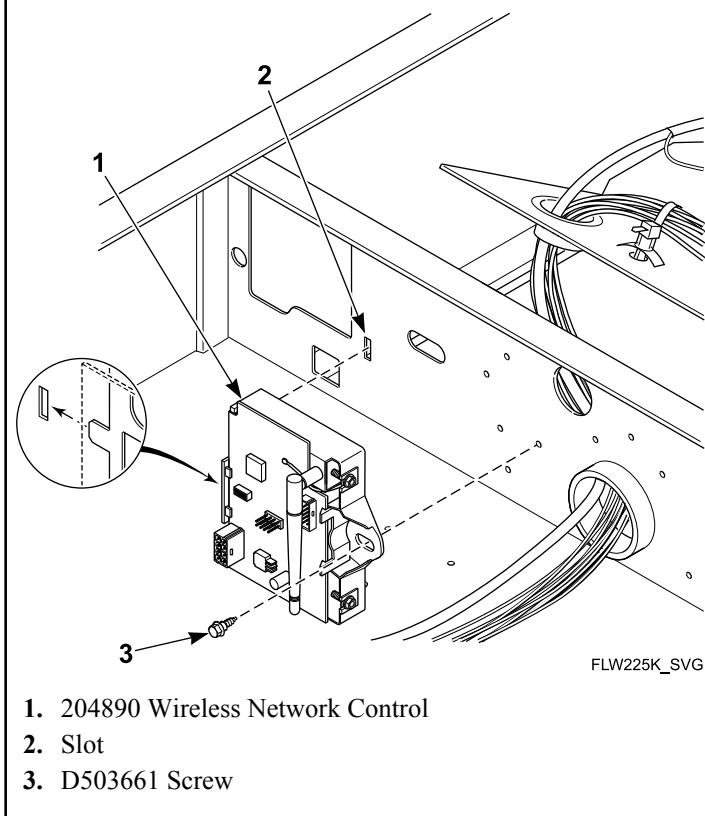

Figure 5
6. Place the tab on 204890 Wireless Network Control into slot in front bulkhead and secure opposite end with one D503661 Screw. Refer to *Figure 5* .